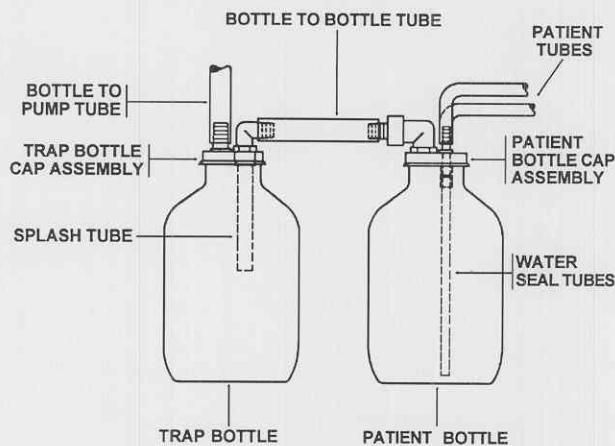
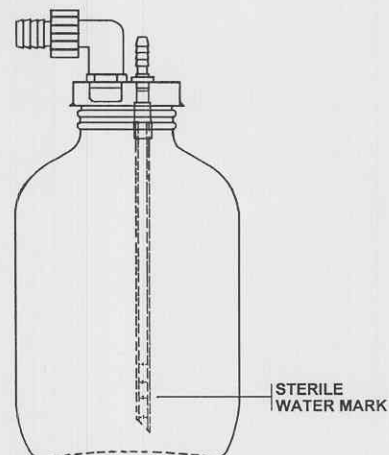

Figure 3-1. Patient drainage system.
Figure 3-2. Water seal.
(1) Verify that the components of the drainage unit are assembled in accordance with the procedures contained in paragraph 2-2 and illustrated in figure 3-1.
- (2) Ensure that the power switch is in its "OFF" position or depress the switch to its "OFF" position.
- (3) Disconnect the two patient tubes and the bottle to bottle tube from the patient bottle cap swivel connector.
- (4) Unscrew the patient bottle cap assembly.
- (5) Pour sterile water into the patient bottle until it reaches the 2-cm mark on the graduated water seal tubes as illustrated in figure 3-2.
- (6) Replace the patient bottle cap assembly.
- (7) Reconnect the two patient tubes and the bottle to bottle tube to the patient bottle cap assembly.
- (1) Verify that the components of the drainage unit are assembled in accordance with the procedures contained in paragraph 2-2 and illustrated in figure 3-1.
(4) Unscrew the patient bottle cap assembly.
(5) Pour sterile water into the patient bottle until it reaches the 2-cm mark on the graduated water seal tubes as illustrated in figure 3-2.
(6) Replace the patient bottle cap assembly.
(7) Reconnect the two patient tubes and the bottle to bottle tube to the patient bottle cap assembly.
(2) Ensure that the power switch is in its "OFF" position or depress the switch to its "OFF" position.